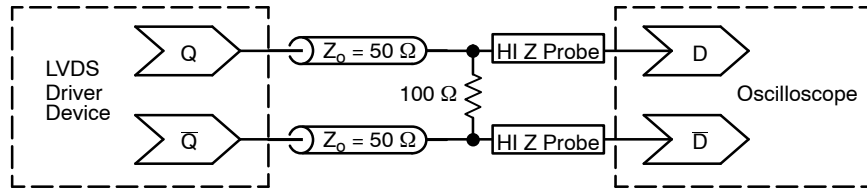

Figure 20. Typical LVDS Termination for Output Driver and Device Evaluation
5. LVDS outputs require 100  $\Omega$  receiver termination resistor between differential pair. See Figure 20.
12. Measured by forcing  $V_{INPPmin}$  with 50% duty cycle clock source and  $V_{CC} - 1400\text{ mV}$  offset. All loading with an external  $R_L = 100\ \Omega$ . Input edge rates 150 ps (20%–80%). See Figure 20.